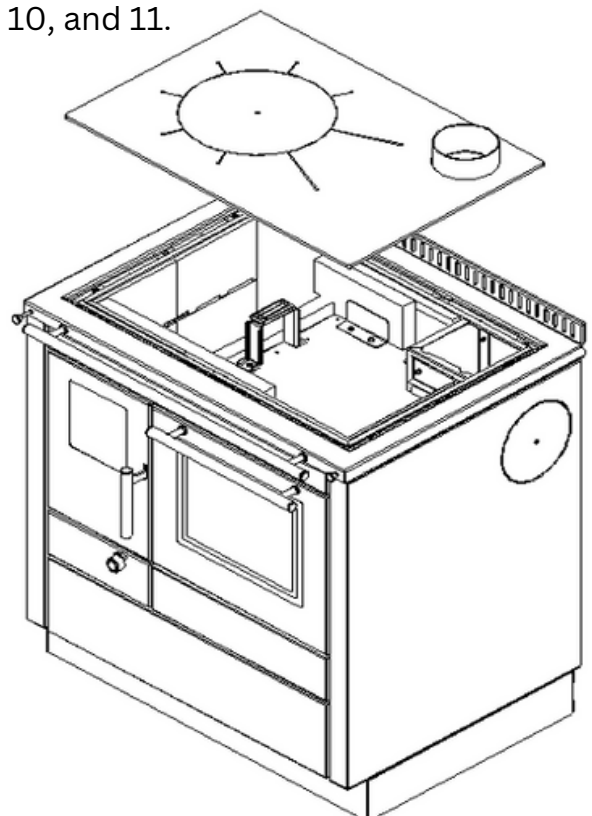

FIGURE 8.
2. Removing the mask under the oven door – Figure 8: The mask under the oven door is removed by opening the wood drawer and manually removing the mask.